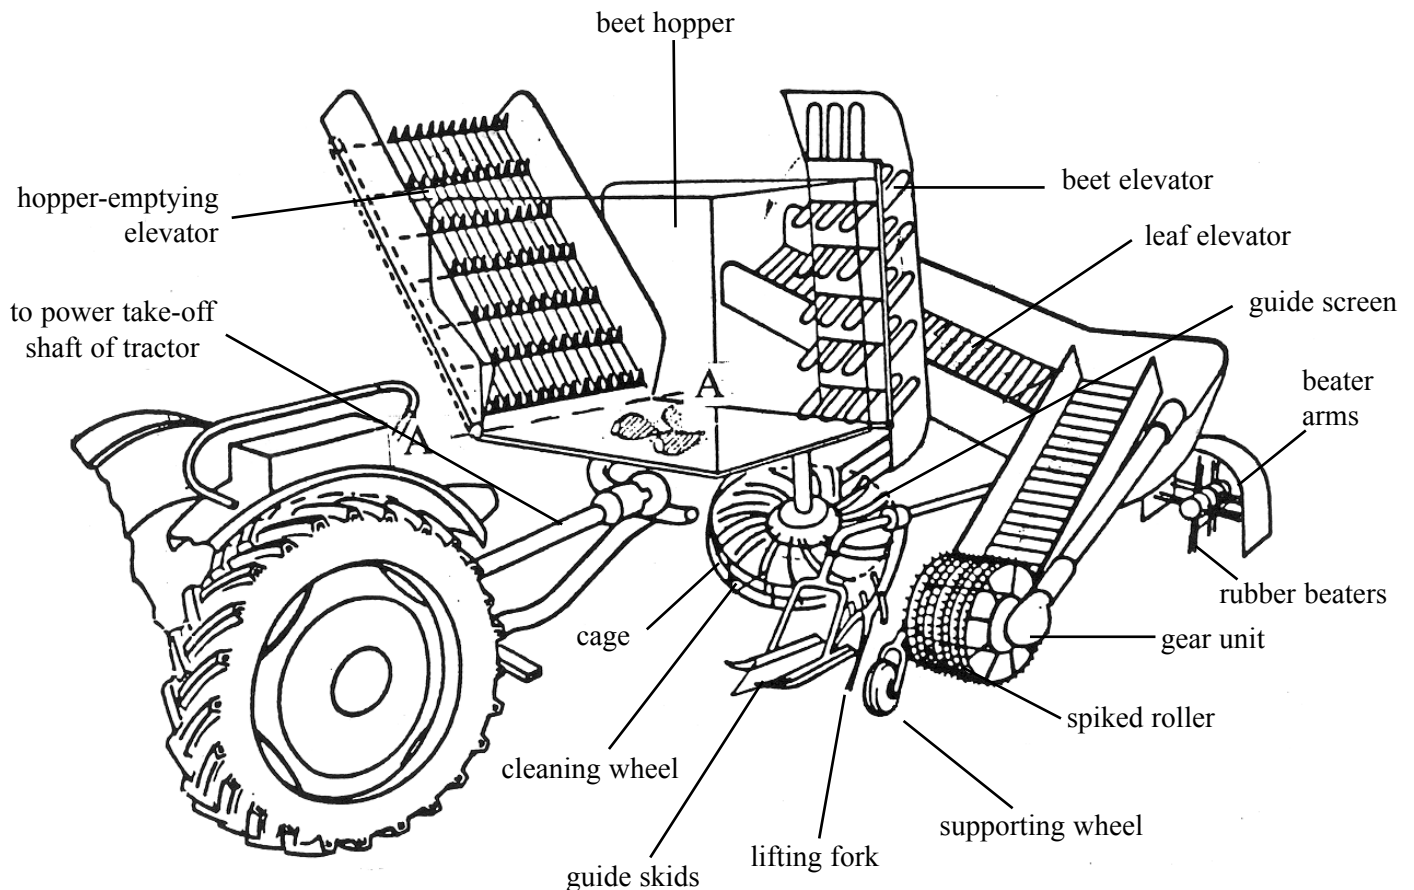
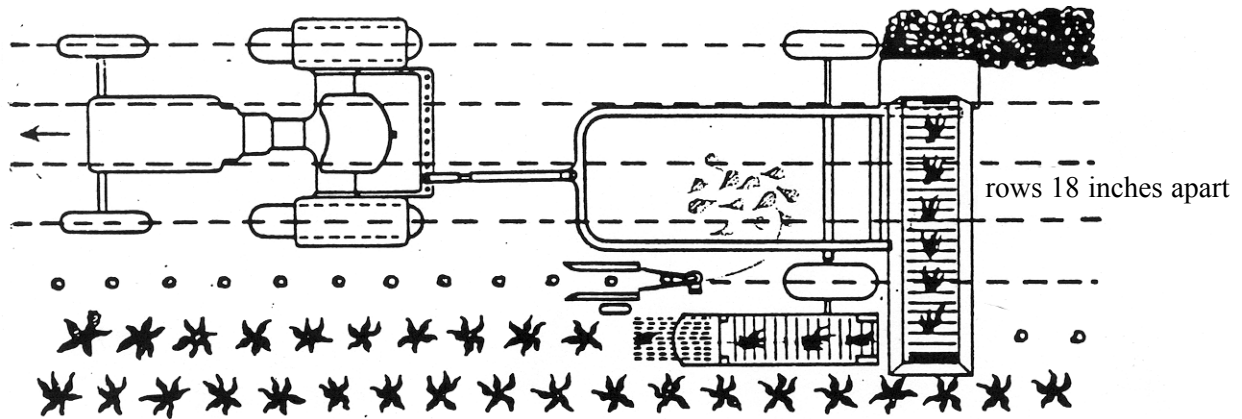
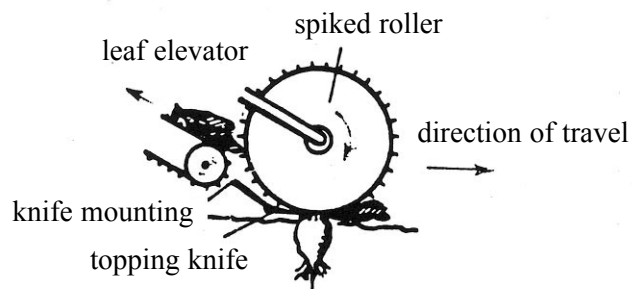

Figure 3
Figure 4
Figure 5 Topping Device
The beet harvesting machine (Figure 3) cuts off the top of the beet (this operation is called “topping”), lifts the beet out of the ground, cleans the earth off it, and delivers it to a hopper or to a wagon travelling along with the machine. Topping is performed by a knife (Figure 5). A spiked roller moves along the ground. When it travels over a beet, the topping knife is automatically set to the correct height. The cut-off beet head with the leaves is fed by the action of the spiked roller to an elevator and is discharged into a hopper (not shown) or is deposited in a windrow beside the machine (as in Figure 4).
The beet is then delivered to an elevator which conveys it to the beet hopper. From time to time the contents of this hopper are emptied into a wagon. This is done by means of the discharging conveyor which forms one side of the beet hopper and which can be swung down to deliver the beet into the wagon. In addition, the hopper can (by hydraulic power) be tilted about the axis *A-A* in Figure 3. The lifting mechanism can be swivelled by the operator, if necessary, in order to seize any beet that may be somewhat out of the row.
1.15 When harvesting the last row of beet, which one of the following will be used in the way shown in Figure 4?